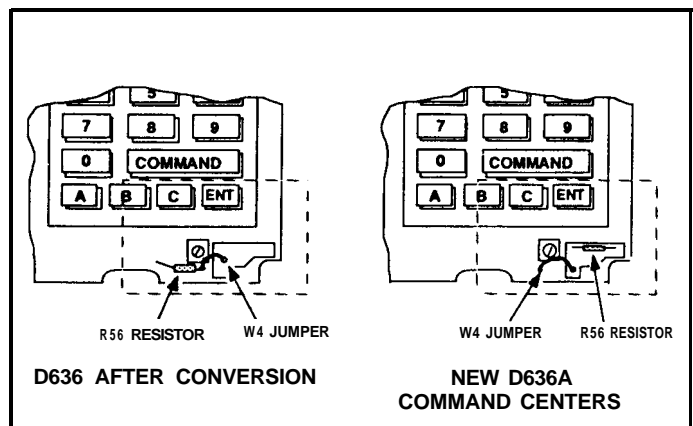

Figure 3: D636A CHANGES
The only difference between the D636 and the D636A is the addition of the keypad backlight jumper (W4) which is present on the D636A Command Center (refer to Figure 3) and a product ID label on the back of the command center base. These are the only visual indications between the two assemblies.
Figure 3 also illustrates the difference between a new D636A and a D636 converted to a D636A.
10.3 Connect the D5100 to the D636A Programmer Connection (see Figure 3 and 7) using the D5106 Programmer Interface Cord or the D5103A Programmer Cord.